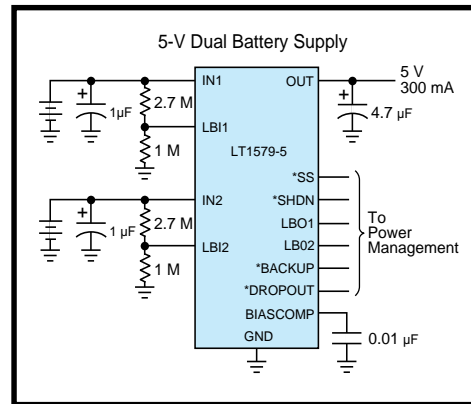

Figure 4—For battery-powered-only apps, the dual-input LT1579 provides a novel solution to the problem of changing batteries on-the-fly.
Linear Tech has come up with a novel solution in the LT1579, which is shown in Figure 4. It's a lot like the previously described linears—a 300-mA LDO (400-mV dropout) with adjustable output (1.5–20 V) and shutdown in small 8-pin (SO) and 16-pin (SSOP) packages.